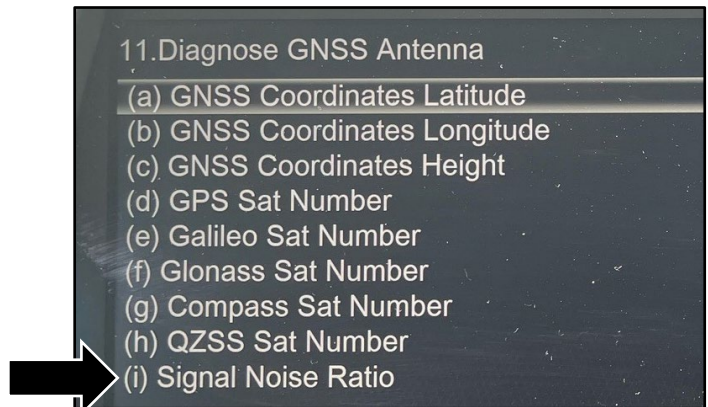

Figure 3
4. Inspect the SNR and record the number shown (refer to Figure 3).